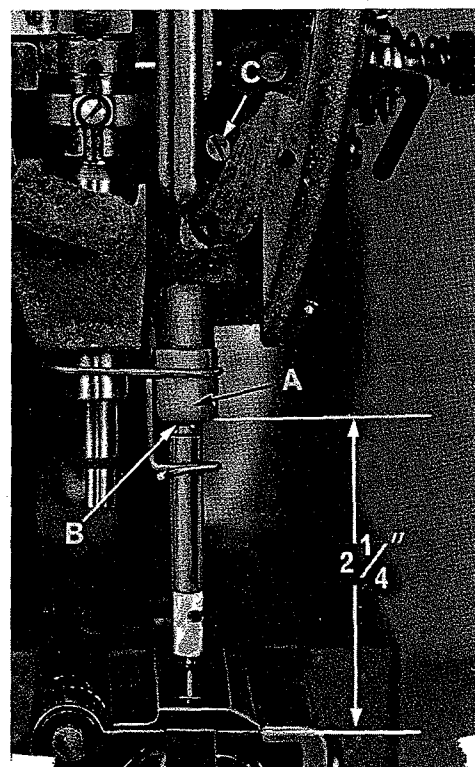

Fig. 13
The lower end of the needle bar frame, the one to which the needle bar is timed, is faced to height at the factory. The distance from the bottom of the frame (A, Fig. 13) to the bottom of the throat plate is 2 1/4 inches.
When the needle bar is at its lowest position, the upper timing line (B, Fig. 13) should be EVEN with the lower edge of the lower needle bar frame (A).
The illustration (Fig. 13) shows the proper setting of the needle bar.
Remove throat plate. Loosen the three set screws (A) in the hook, and hold the hook and the bobbin case holder in such a position as to prevent interference with the needle. Turn handwheel in operating direction until the needle is at its lowest position, and continue to turn the handwheel until the needle is ascending and the lower timing mark (Fig. 13) used in setting the needle bar is even with the lower edge of the needle bar frame (A).